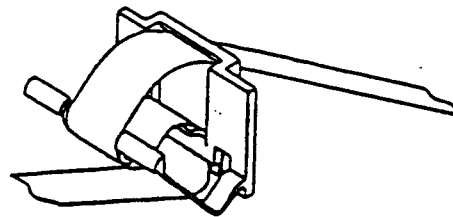

Figure A-7. Feeding the Flexible Cable
6. Feed the flexible cable through the FPC clamp as shown in Figure A-7.